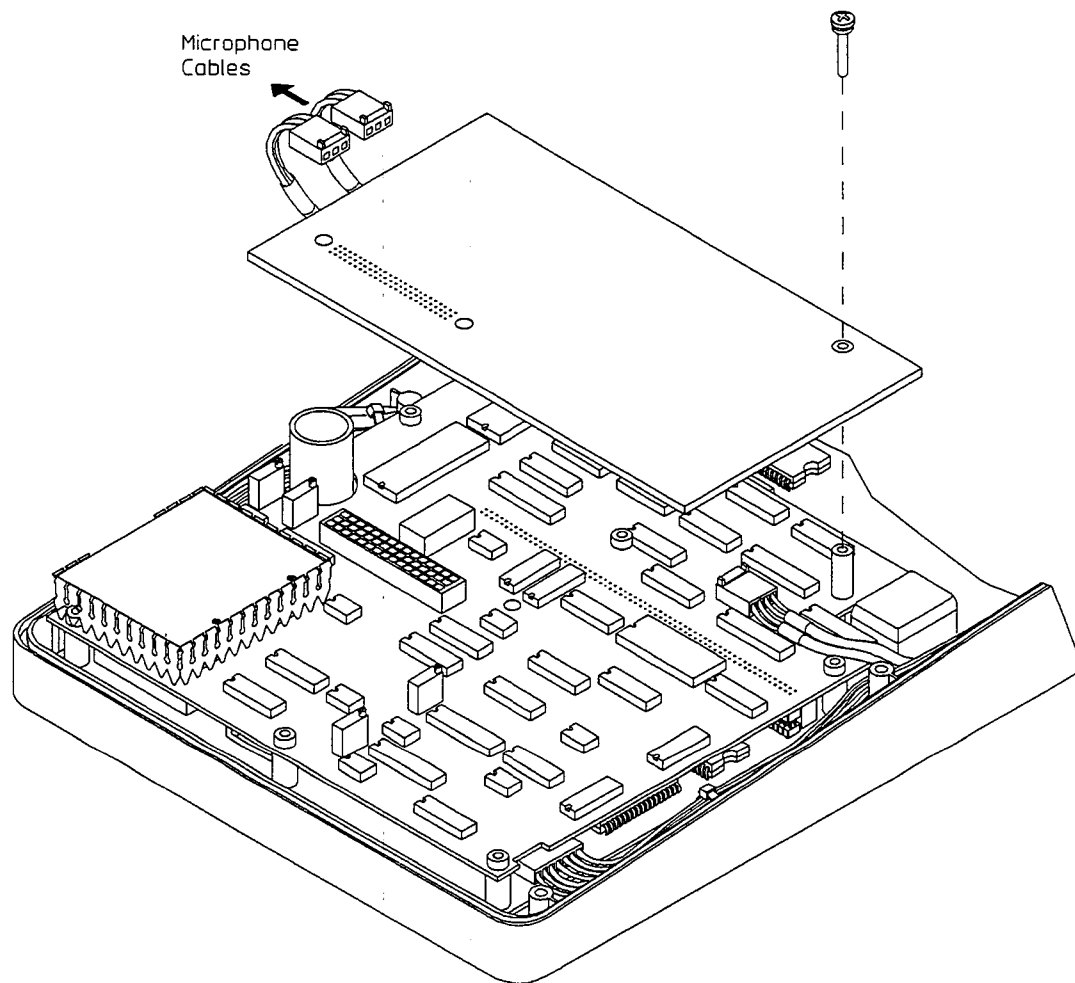

Figure 6-3.
1. Remove the screw holding the A4 assembly as shown in figure 6-3.